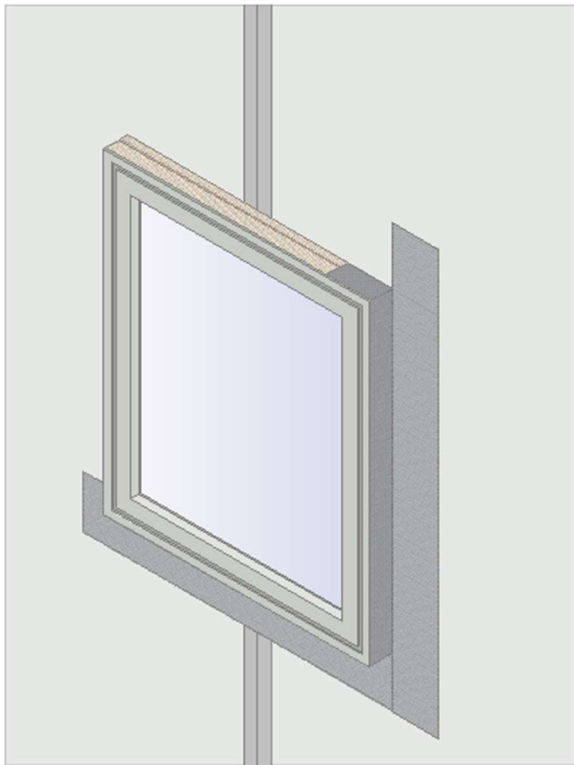

Figure 10
- All bonds should now be firmly consolidated with a seam roller (Figure 10).